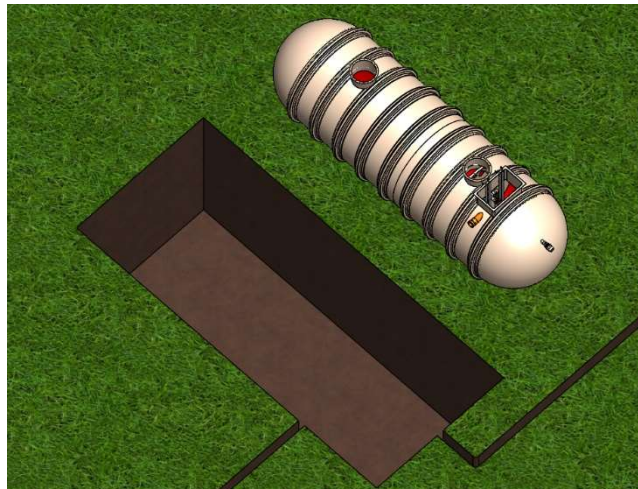

Figure 1
- 4.7. Excavate the minimum opening in the ground to receive the pump chamber, inlet, outlet & duct pipe work to be used (**Fig 1**). (NB: see table 1 on page 7 for tank lengths).